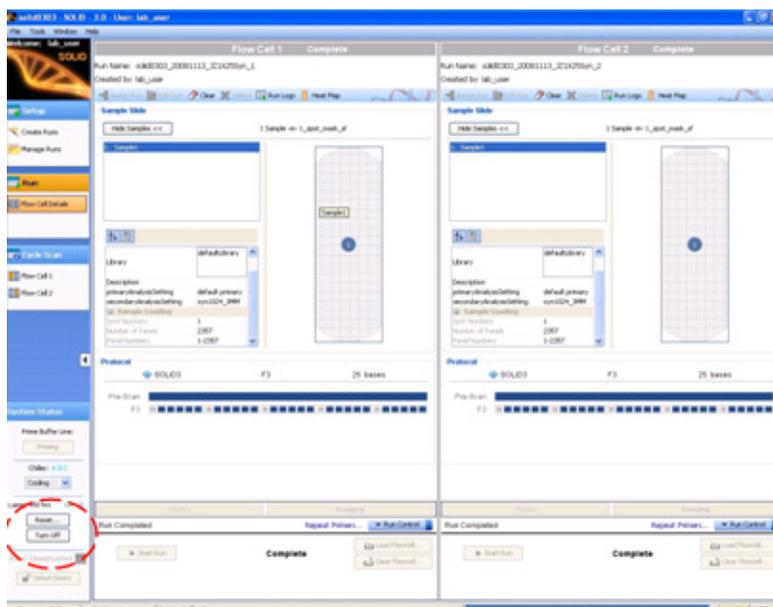

Figure 68 Lamp controls in the ICS.
1. Under the System Status menu on the ICS, click the **Turn Off** button for the lamp (see Figure 68).